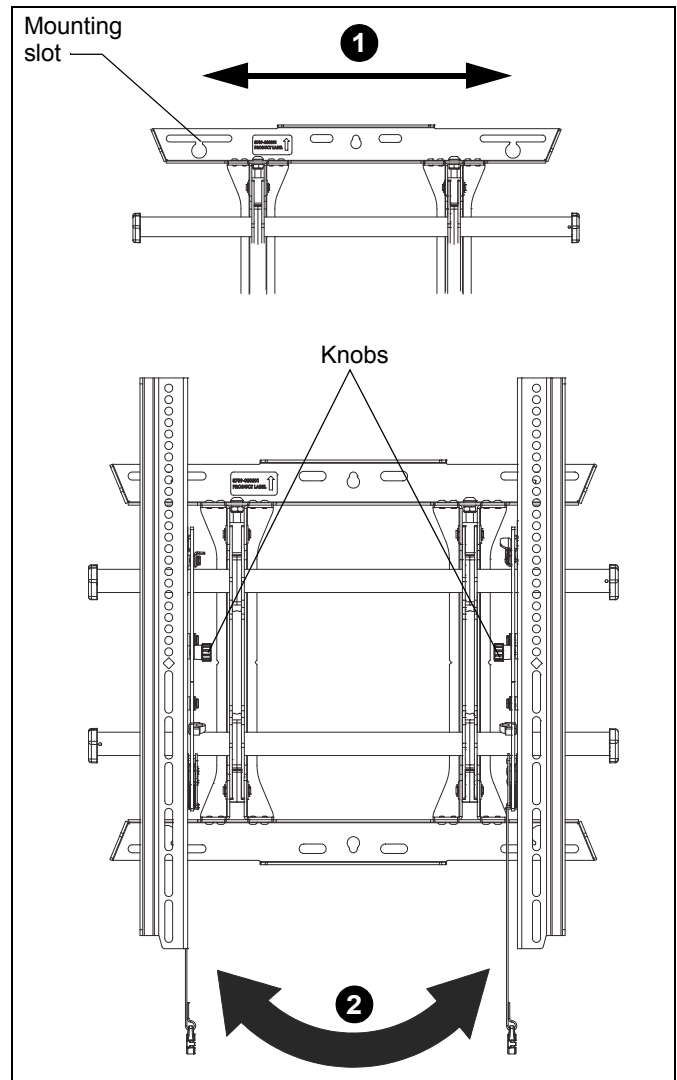

Figure 7
1. The wall bracket may be adjusted side to side at the points of attachment (mounting slots). (See Figure 7)
2. The location of the left and right interface brackets may be switched, with the knobs on the MTMP1U interface brackets facing the inside of the mount. (See Figure 7)